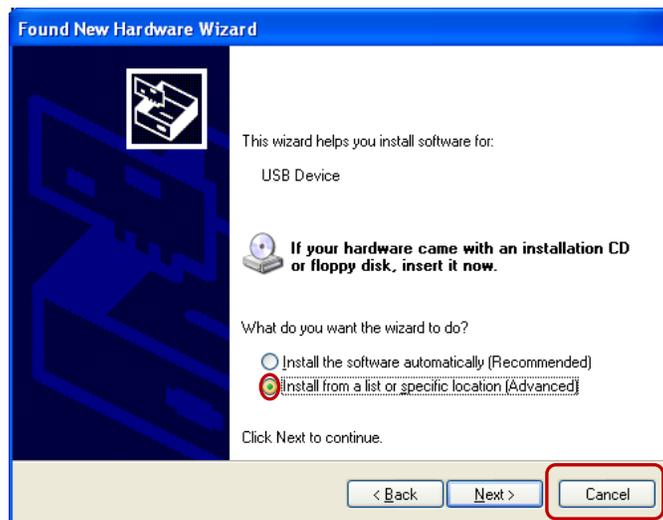

Fig. 7
3. Select the radio button > **“install from a specific location (advanced)”** and then press > **Next** as shown in Figure 7.